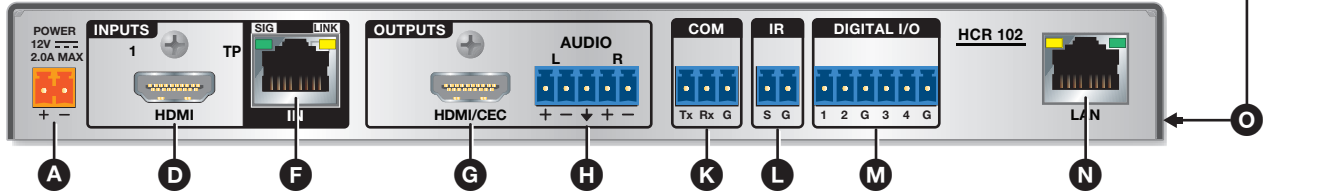
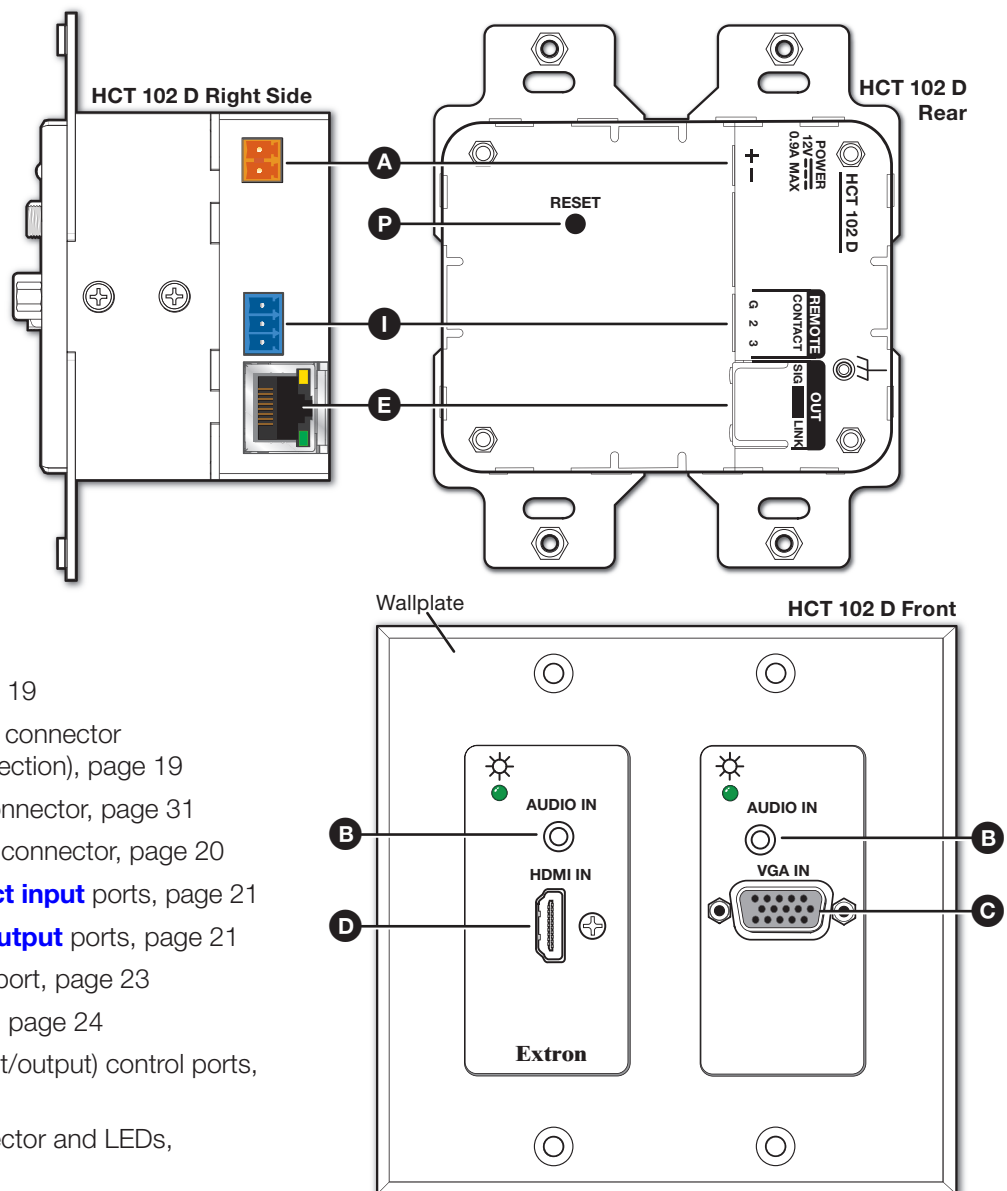
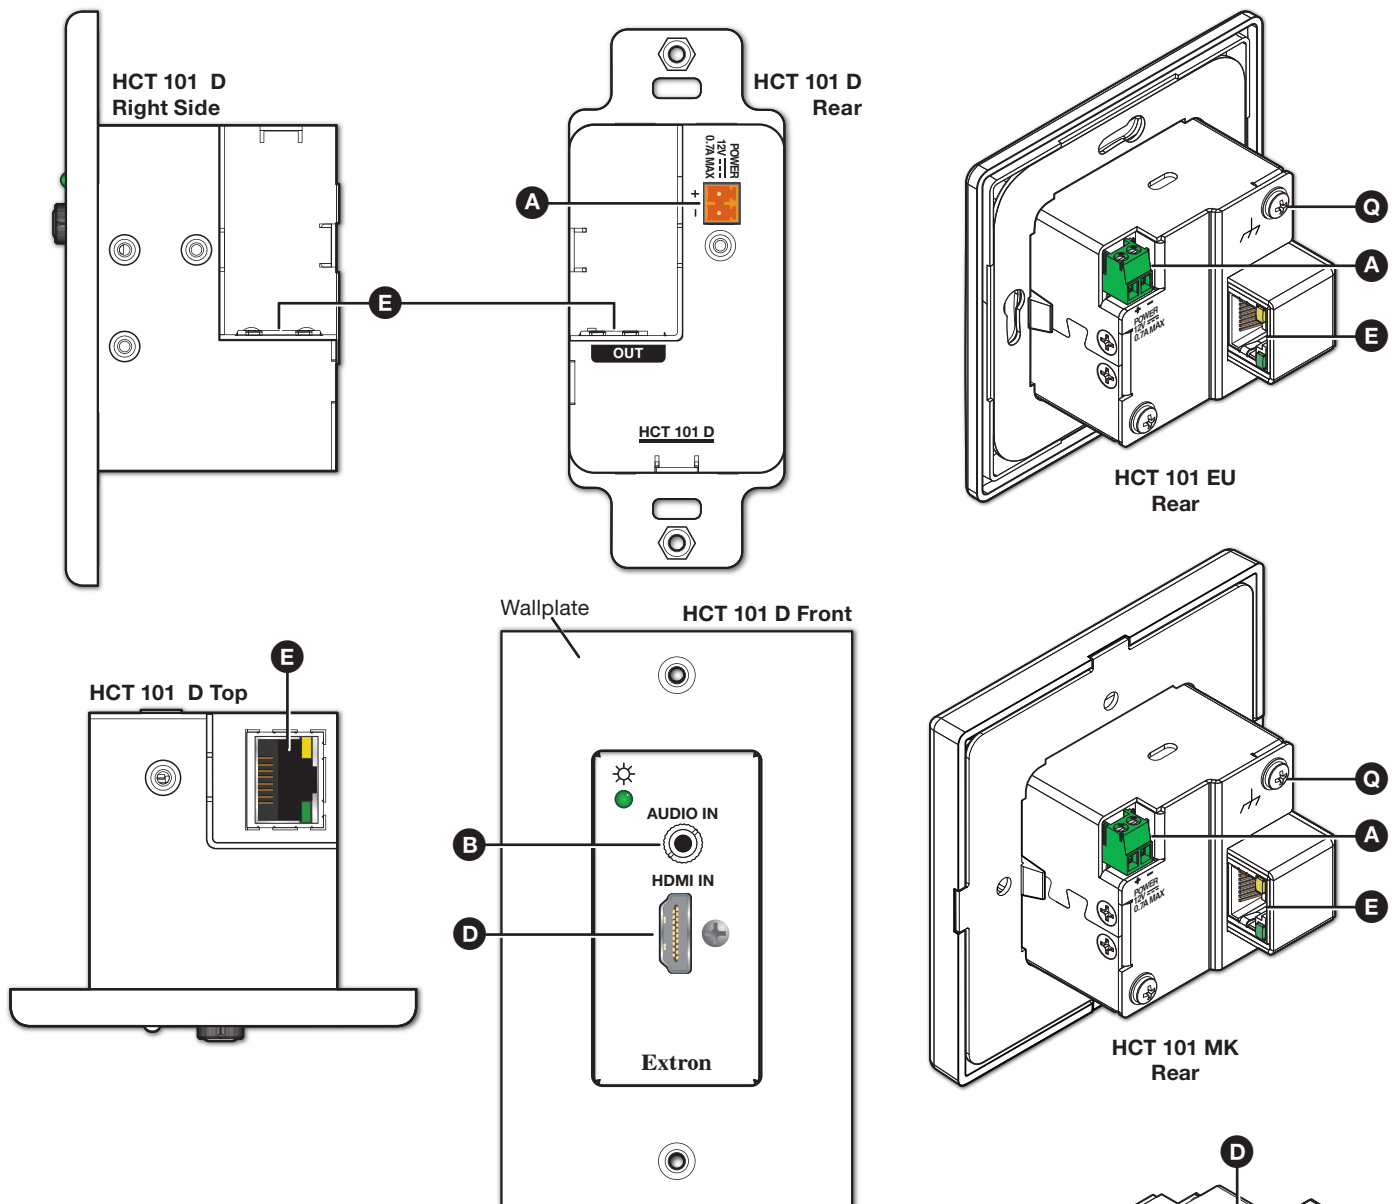

Figure 7. HCT 103 Rear Panel (Top) and HCR 102 Rear Panel (Bottom)
Figure 8. HCT 102 D Right Side Panel (Top Left), Rear Panel (Top Right), Front Panel (Bottom)
Figure 9. HCT 101 D Right Side Panel (Top Left), Rear Panel (Top Right), Top Panel (Bottom Left), Front Panel (Bottom Right)
- B Analog audio input** (see figure 7 and figure 8 on page 16 and figure 9 on page 17) — For analog audio sources, connect the source device to the audio input 3.5 mm tip-ring-sleeve (TRS) connector on the transmitter. Wire the connector as shown at right.
- C Analog video input** — Connect an analog RGB video input source to the 15-pin HD RGB input connector (see figure 7 and figure 8 on page 16) on the transmitter.
- D Digital AV (HDMI) input** (see figure 7 and figure 8 on page 16 and figure 9 and figure 10 on page 17) — For HDMI video and for digital audio embedded within HDMI signals (or single link DVI-D with the appropriate DVI-HDMI adapters):
Connect the Out port of the transmitter (E) (see figure 7 and figure 8 on page 16 and figure 9 and figure 10 on page 17) to the In port of the receiver (see figure 7, F on page 16) using a shielded twisted pair CAT x cable of up to 230 feet (70 m), as shown in figure 1 on page 4. Terminate the cable with shielded RJ-45 connectors using the TIA/EIA-T568B wiring standard at both ends, as shown at right.
1. Connect a display, projector, or other AV device to the Outputs HDMI/CEC connector (see **figure 7**, **G** on page 16) on the receiver rear panel for HDMI AV output. For more about the Consumer Electronics Control (CEC) connection and function, see **HDMI/CEC** on page 31
Connect a host computer to the USB mini-B port on the receiver (see figure 7 and figure 8, A on page 16) for device configuration with PCS software.
The remote control contact input ports (see figure 7 and figure 8, ①) and tally output ports (see ②) are typically used together. Momentarily short a contact input pin to ground to select the corresponding input. Connect a tally output pin and tally voltage pin to light an LED to indicate that the corresponding input is selected.